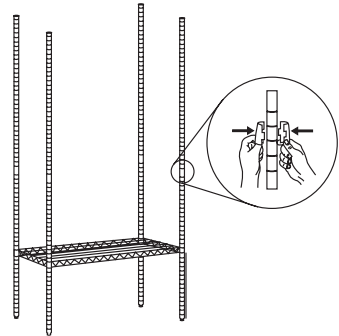

Fig. 4
6. Locate the next shelf by counting grooves on the pole to the desired height. Attach a pole sleeve and repeat for each pole [Fig. 4].